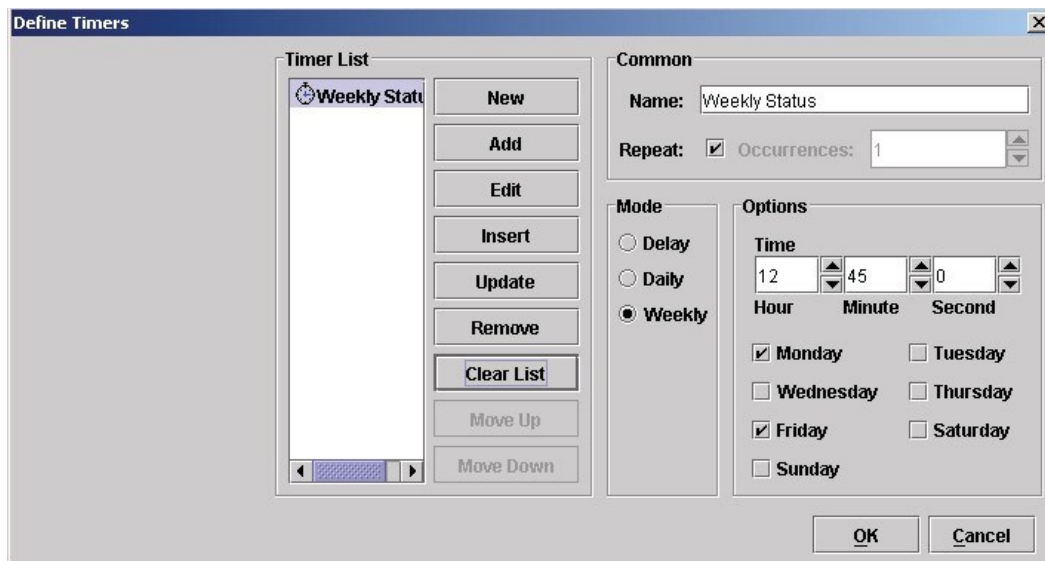

Figure 224 Setting a Weekly Timer
6. Click **Add**. The Weekly Status timer is added to the Timer List. See Figure 224.